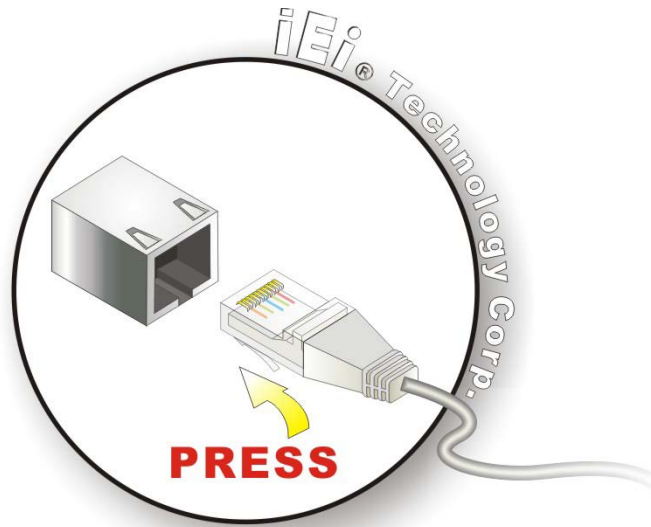

Figure 4-15: LAN Connection
Step 2: Align the connectors. Align the RJ-45 connector on the LAN cable with one of the RJ-45 connectors on the KINO-G410. See **Figure 4-15**.